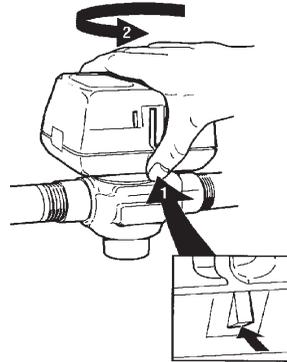

Figure 1
4. Remove valve actuator by pressing up on the latch mechanism located directly below the red manual open lever with thumb (See Figure 1). Simultaneously press the actuator down towards the valve body with moderate hand force and turn the actuator counter-clockwise by 1/8 turn (45°). Lift actuator off the valve body.